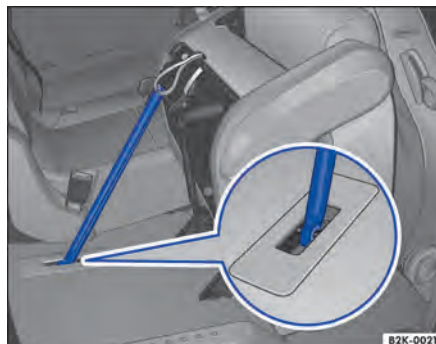

Fig. 66 Second row of seats: secure the seat folded forward with the rod.
3. Release the securing rod from the bracket and push the rod firmly into the seat anchoring until the securing rod engages → Fig. 66.